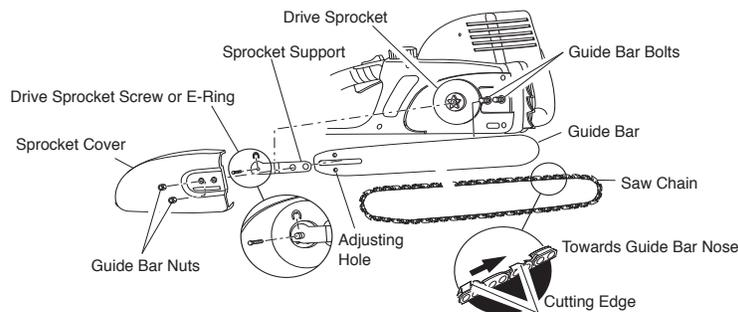

Figure 4 - Assembling Guide Bar and Chain
3. Loosen and remove drive sprocket screw or remove E-ring from shaft (see Figure 4). Remove sprocket support.
6. Place chain around drive sprocket, along top groove of guide bar, and around guide bar nose. **Note:** Make sure cutting edges of chain are facing in right direction. Position chain so cutting edges on top of guide bar face guide bar nose (see Figure 4, and indicator on side cover of saw).
9. Turning chain tensioning knob (Model 107625-02, 111174-01) or chain tensioning screw (Model 107624-02), adjust position of adjustment block until it is aligned and inserted into the round adjusting hole on guide bar (see Figure 4, 5 and 6). Turning chain tensioning knob or chain tensioning screw counterclockwise will move adjustment block to rear of guide bar. Turning chain tensioning knob or chain tensioning screw clockwise will move adjustment block to front of guide bar.